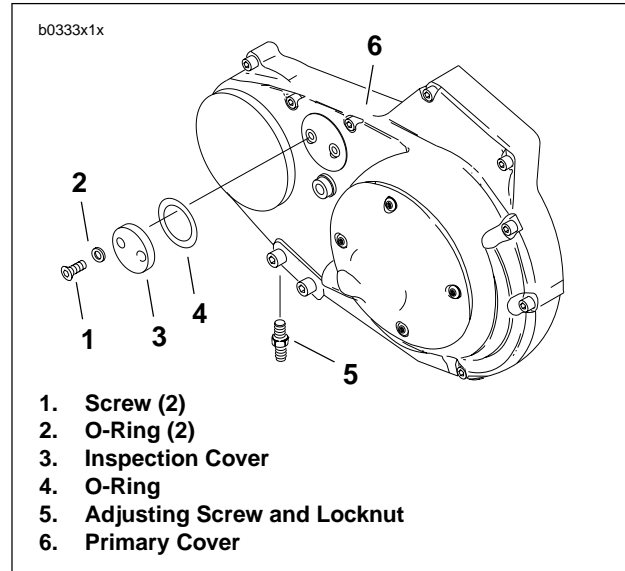
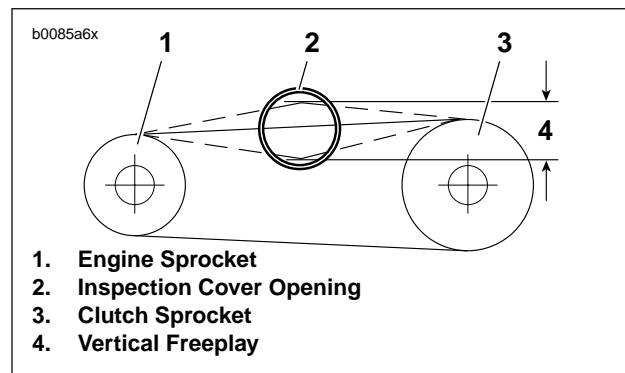

Figure 1-28. Primary Chain Inspection Cover
Figure 1-29. Measuring Primary Chain Tension
See Figure 1-28. Measure primary chain tension through the inspection cover (3) opening. Adjust primary chains not meeting vertical freeplay specifications.
1. See Figure 1-28. Remove two screws (1) and O-rings (2).
2. Remove inspection cover (3) and O-ring (4) from primary cover (6).
3. See Figure 1-29. Check primary chain tension by measuring vertical freeplay (4).
- a. Measure vertical freeplay through inspection cover opening (2).
5. See Figure 1-28. Install O-ring (4).
6. Fasten inspection cover (3) to primary cover (6) using two screws (1) with O-rings (2). Tighten to 40-60 in-lbs (5-7 Nm).